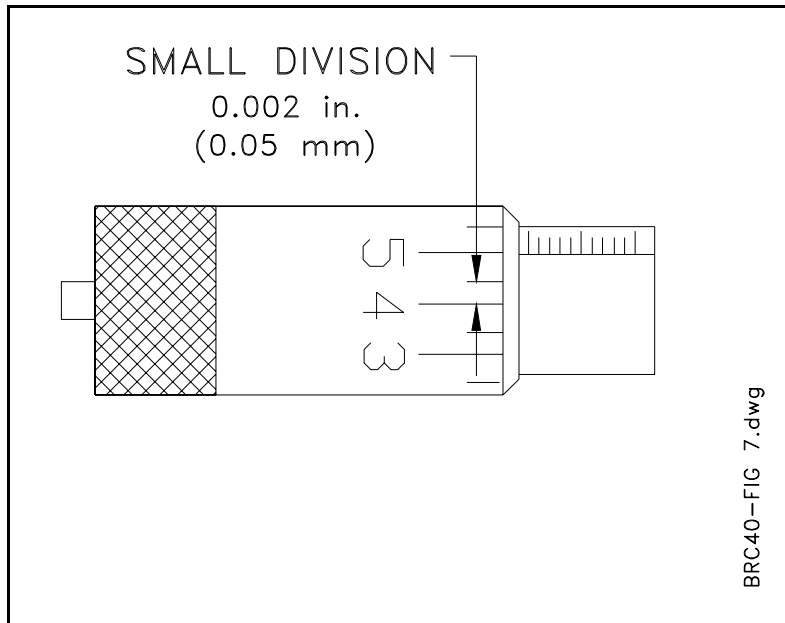

Figure 14 Cut Depth Micrometer
- 20) Turn both Cut Depth Micro-meters clockwise one small division to move the cutting tool tips towards the face of the rotor by 0.002 inch (0.05 mm) Figure 14 illustrates that 0.002 inch is the distance between two of the closest marks.